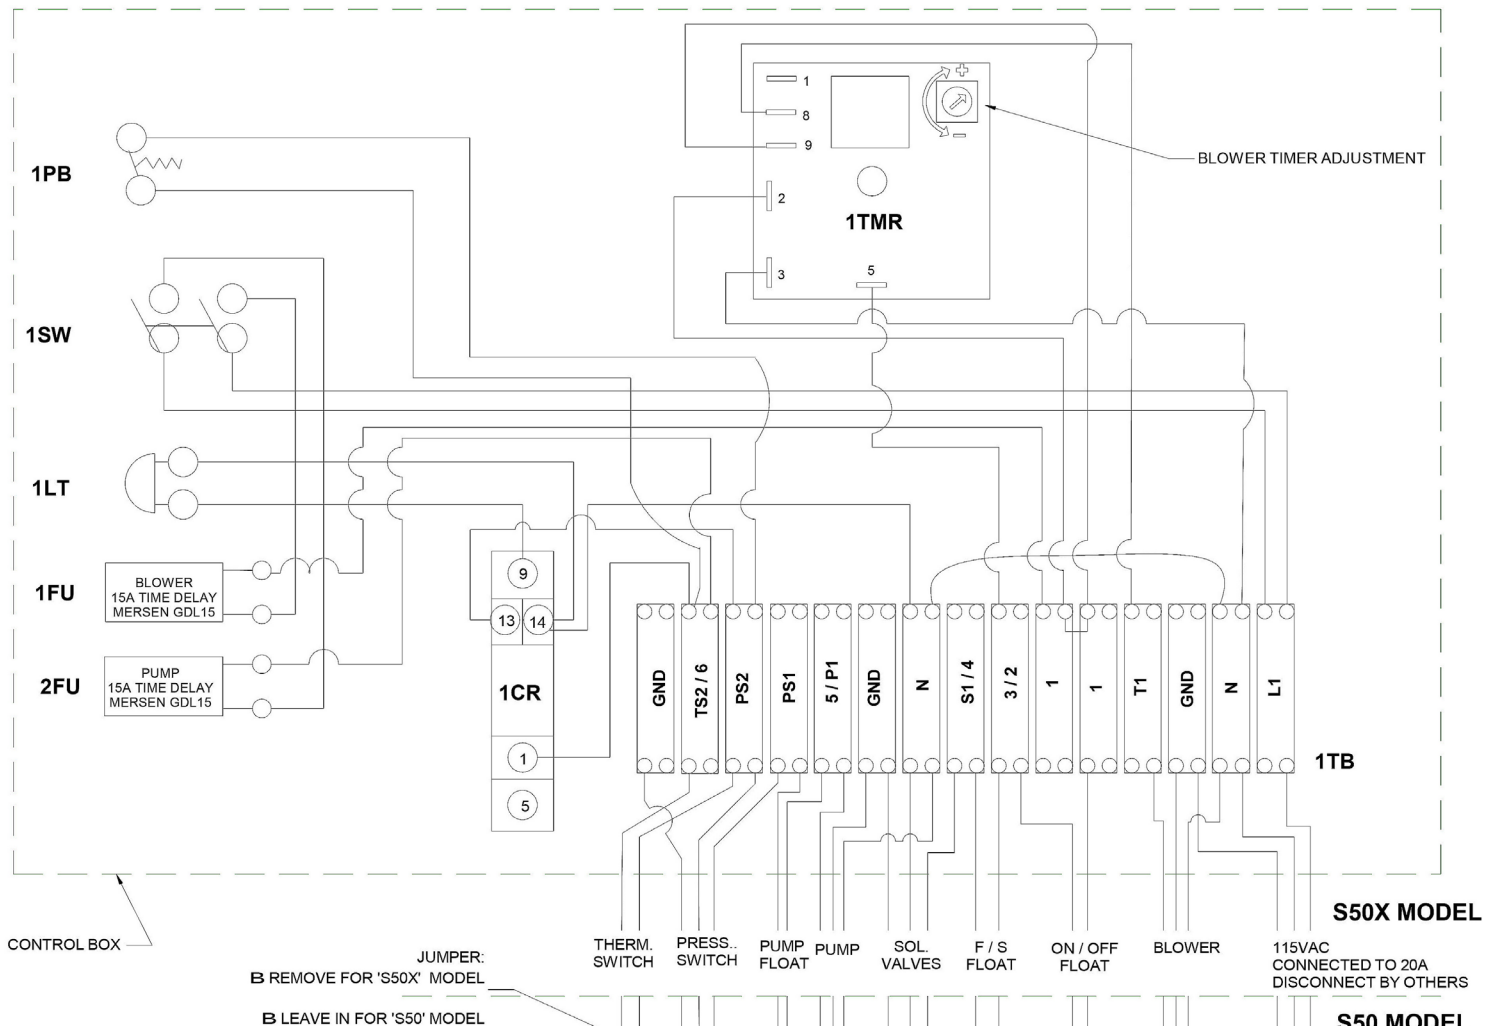

Figure 9
6. Connect the power line to the control panel as shown in the applicable wiring diagram (See Figures 9 and 10 on pages 14 and 15).